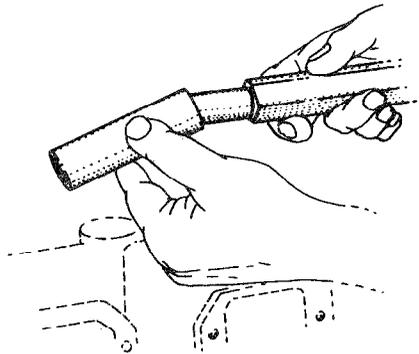

Fig. 13 — Installing Tool J-21374
- b. Install tool J-21374, or equivalent, into the sleeve (see fig. 13).